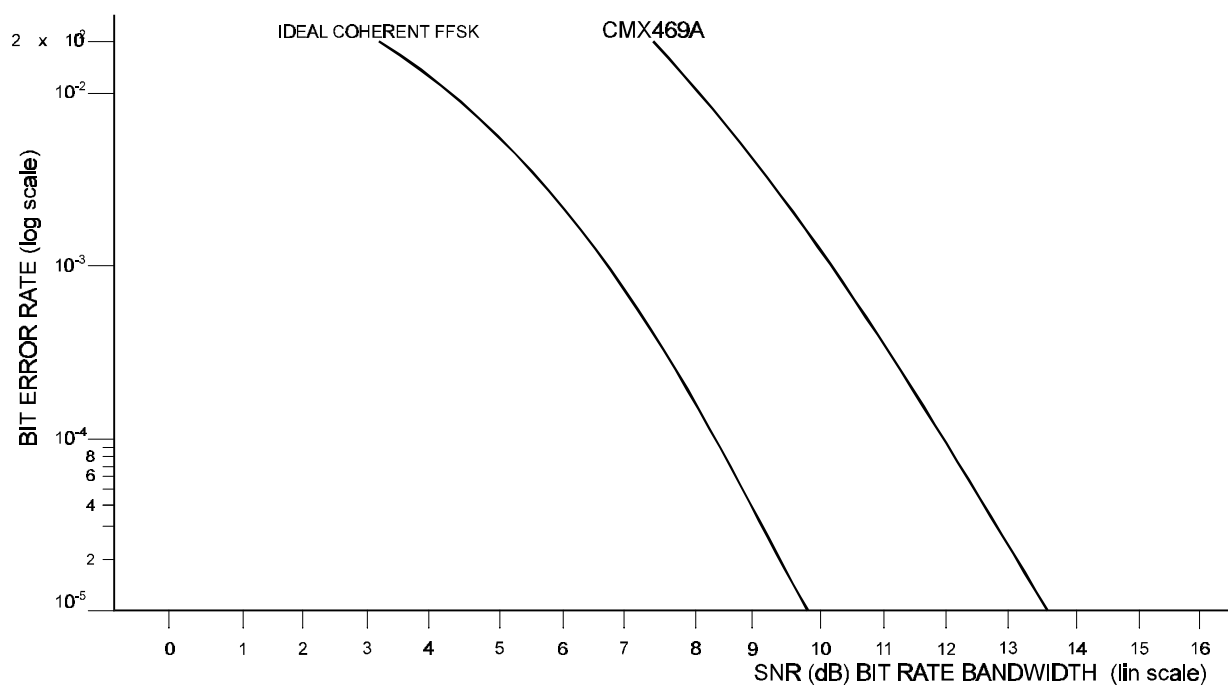

Figure 7 Typical Rx Bit Error Rate vs Signal-to-Noise Ratio
5. See Figure 7 (Typical Rx BER vs Signal-to-Noise Ratio).